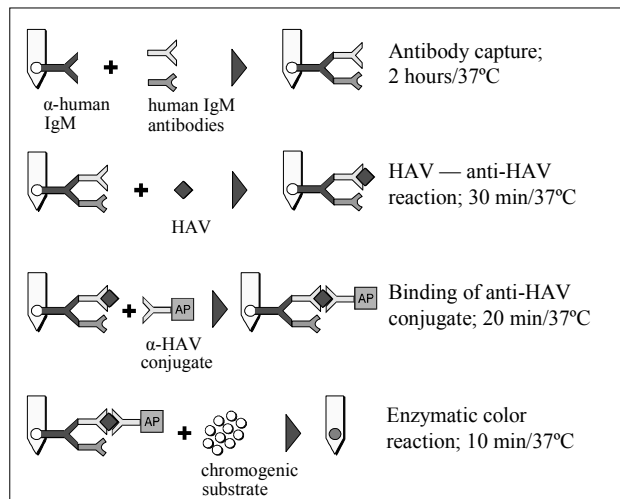

Figure 1. Principle of the Test
At the outset of the test, serum or plasma specimens are prediluted 1:50 and added to the diluent in the wells of row A of the Developing Plate. The Card is then inserted in the wells of row A. Human IgM will be captured by the anti-IgM antibodies on the lower spots on the teeth of the Card (Figure 1). Unbound components are washed away in row B. In row C, anti-HAV IgM antibodies captured on the teeth, will react with HAV antigen. Simultaneously, HAV antigen will also bind to the anti-HAV antibody on the upper spot (Internal Control). In row D the bound HAV antigen will react with monoclonal anti-HAV antibody labeled with alkaline phosphatase (AP). In row E unbound components are removed by washing. In row F, the bound alkaline phosphatase will react with chromogenic components. The results are visible as gray-blue spots on the surface of the teeth of the Card.